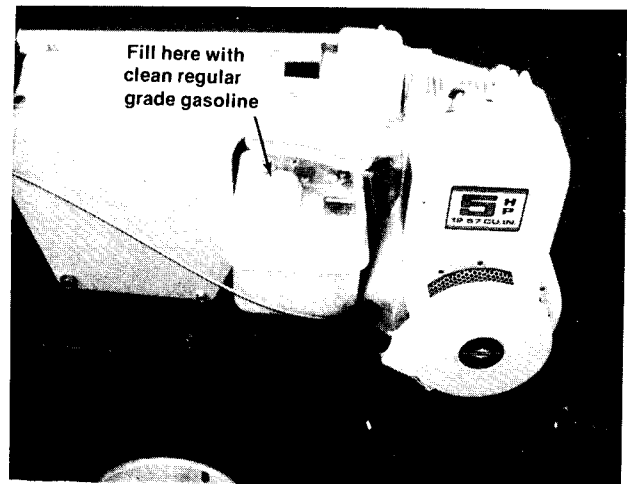

FIGURE 16.
3. Fill fuel tank with clean fresh regular grade of gasoline. See figure 16.